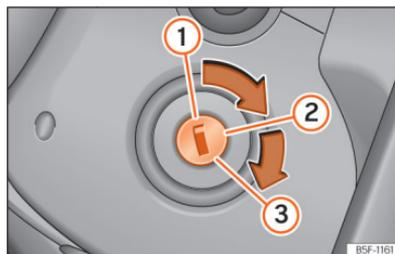

Fig. 83 Ignition lock
- Turn the key to position **>>> Fig. 83 ②**.
- Keep turning the key to position **>>> Fig. 83 ③** without pressing the accelerator.
- Once the engine starts, release the key. When it is released, the key returns to position **②**.
- *Vehicles with ignition locks:* Turn the key to position >>> Fig. 83 .
- *Vehicles with start buttons:* Briefly press the start button >>> Fig. 83.